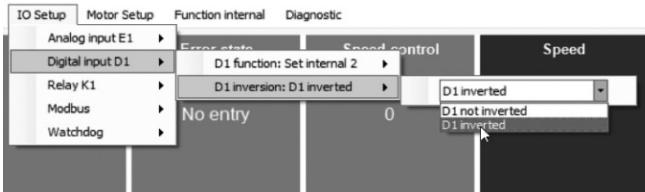

Fig. 19 – ZA – IO Setup ECblue 2nd Window – D1 Inversion
10. In the same window, go to **IO Setup → Digital input D1 → D1 inversion** and select **D1 inverted** (see Fig. 19).